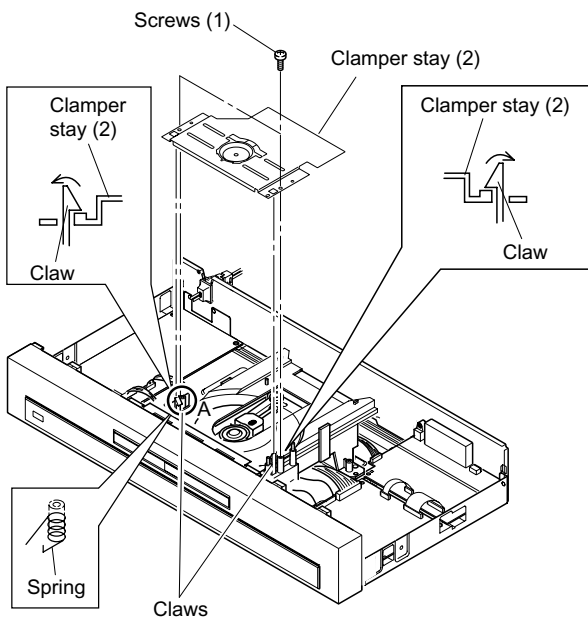

Fig. 2-1-13
1. The spring for tray side pressure is inserted into the portion "A". (Refer to Fig. 2-1-13.)